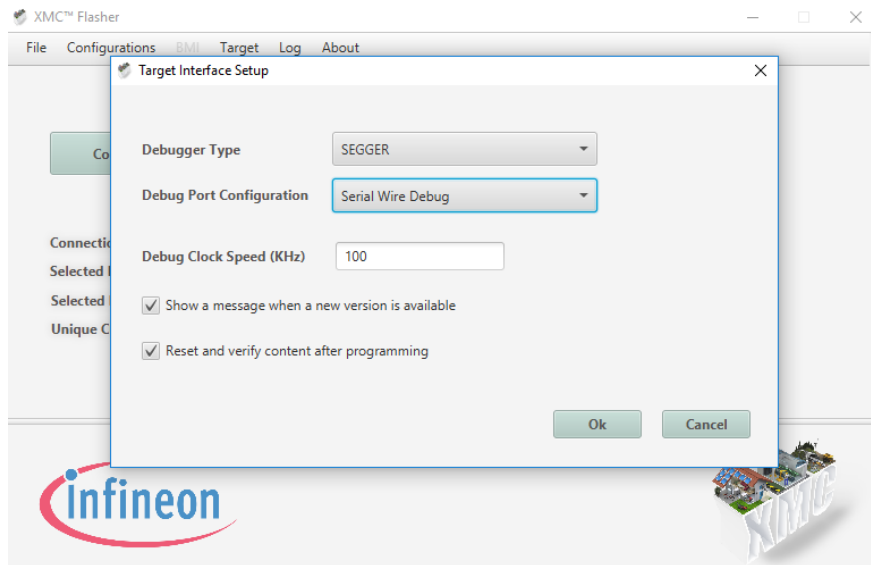

Figure 7. Serial Interface Setting
Step 5. Make sure the XMCFasher configuration is set for Serial Wire Debug and NOT JTAG (Figure 7). The Interface Setup is found under Configuration – Setup... Make sure the “Reset and verify content after programming” box is also checked off.